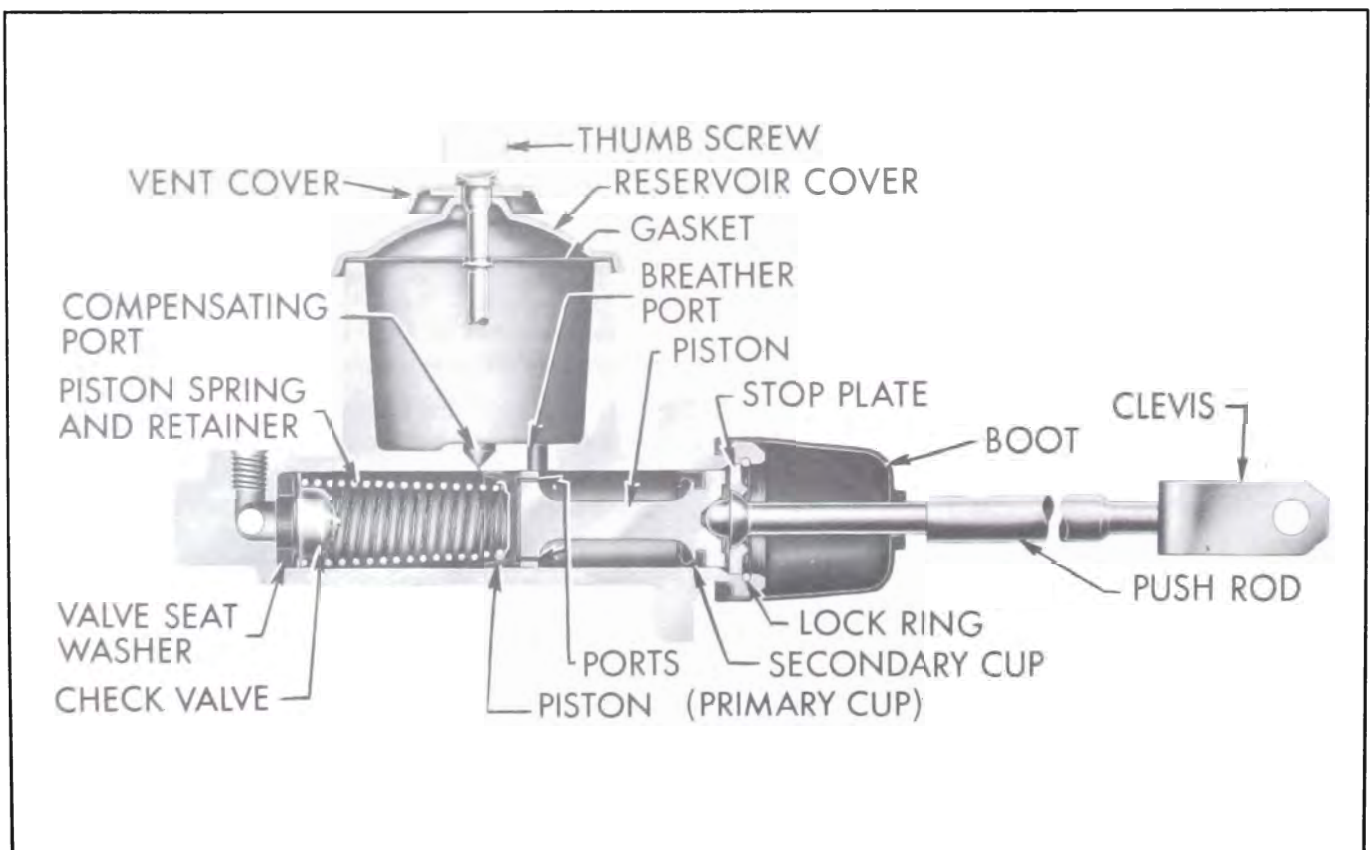

Figure 9-11—Brake Master Cylinder
1. Remove rubber boot. Remove lock ring, then remove push rod with stop plate. See Figure 9-11.